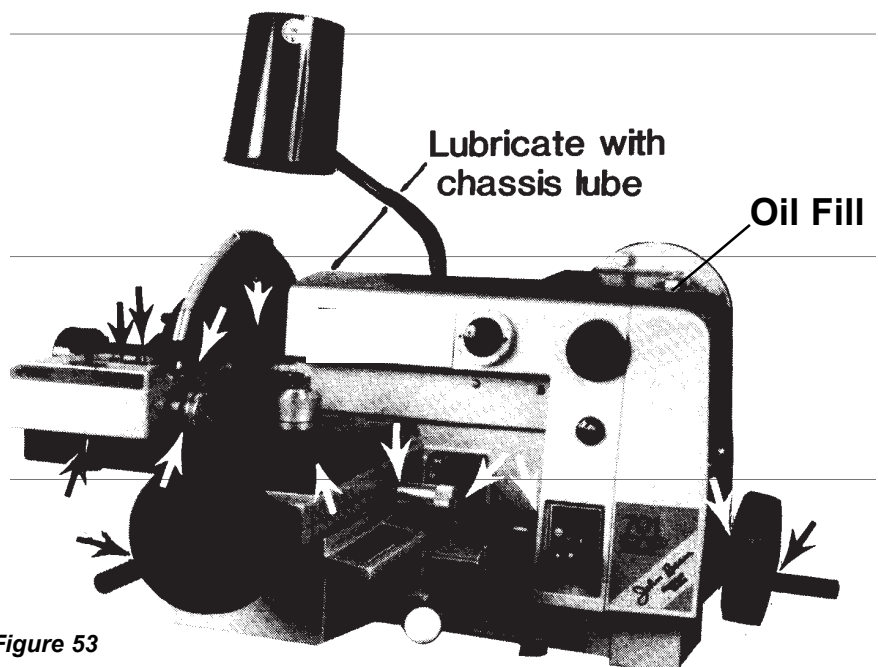

Figure 53
3. When first operating the lathe, a small amount of oil leakage at the breather is normal. The reason for this is that pressure builds up in the oil cavity. This is normal to the operation of the lathe. Add oil when necessary. See Figure 53.
5. An occasional spray of lubricant (CRC or WD40) on the feed screw and nut is recommended. See Figure 53.
6. It is important to keep the arbor clean and lightly lubricated to permit adapters and collets to slide on and off easily. See Figure 53.
8. The rotor truer must be kept clean. A periodic spray of lubricant directed under the cover casting is recommended. This will keep the tool bar lubricated and operating freely when turning the micrometer feed dial knobs. **See Figure 53.**
9. After each three months of operation, lubrication with chassis grease through grease fitting at arbor end (on the back side of the housing) is recommended. **See Figure 53.**